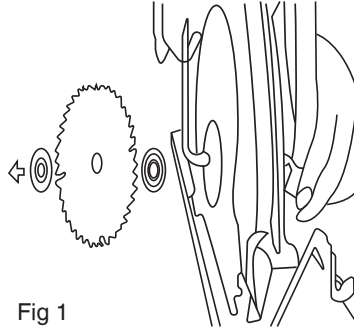

Fig 1
1. To remove the blade, Press the Lock shaft so that it cannot revolve, then use the Hex wrench to loosen the hex bolt counterclockwise. Then remove the hex bolt, outer flange and blade.( Fig1)